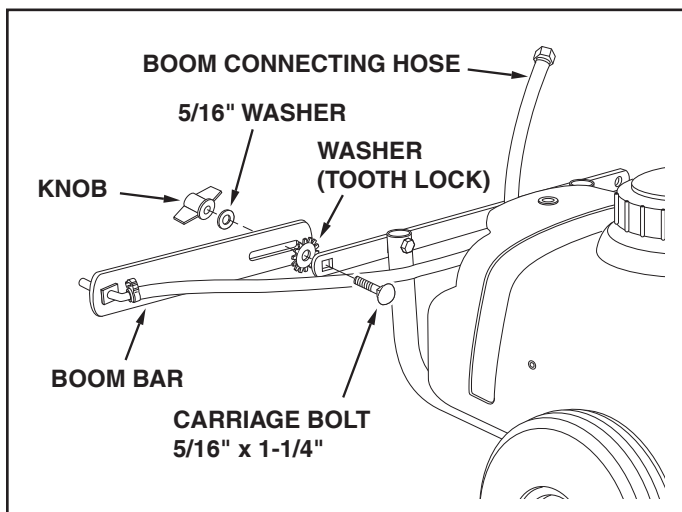

FIGURE 5
- Assemble the boom bars to the boom mount bracket using two 5/16" x 1-1/4" carriage bolts, tooth lock washers (between the bar and bracket), 5/16" flat washers and knobs. The boom connecting hose should extend upward. See figure 5.